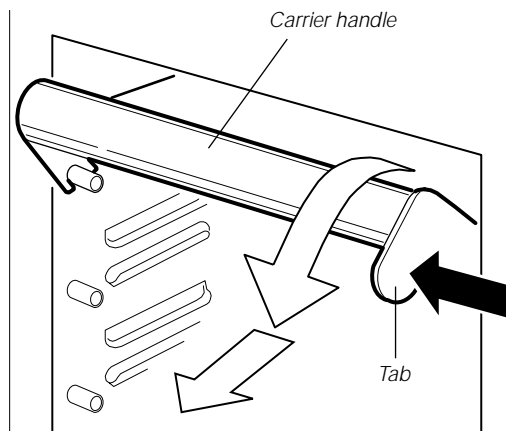

Figure 21: Disengaging Drive Carrier from Chassis
5. Press the rounded tab on the right of the carrier to the left (toward the center of the drive, Figure 21) while gently pulling straight down on the carrier handle (Figure 21). This disengages the latch that secures the carrier to the chassis.